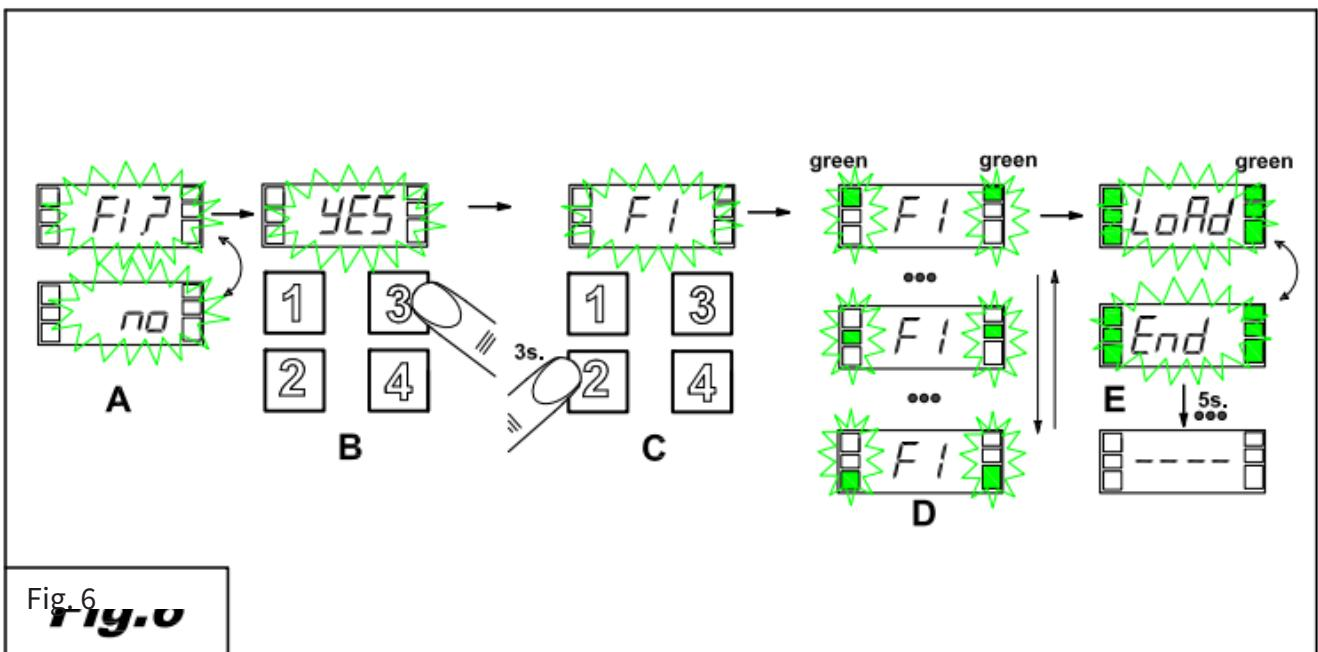

Fig. 6
The message "FI?" "no" appears alternately on the display (Fig. 6/A)
Press the button (3) to select "yES" (Fig. 6/A)
Confirm by holding down the button (2). (Fig. 6/C)
The machine automatically starts filling the boiler and displays the message "FI" (fig. 6/D)
When the message "LoAd" "End" appears alternately on the display, the filling is complete and the machine is ready to be switched on (Fig. 6/E)